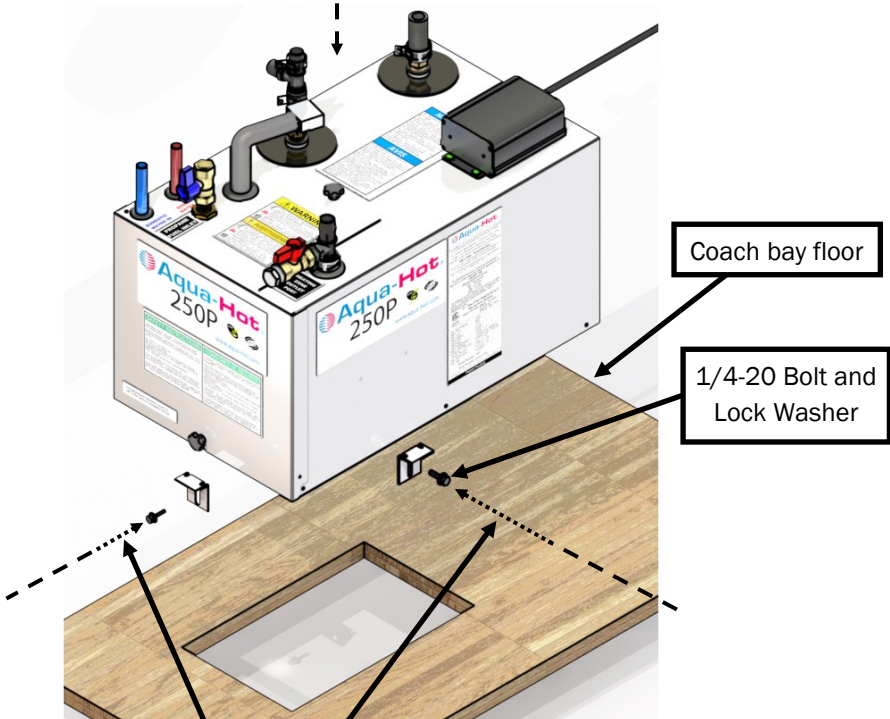

Figure 8
3. Install the flange located on the bottom of the Aqua-Hot into the cutout opening. Reference figure 8 and figure 9